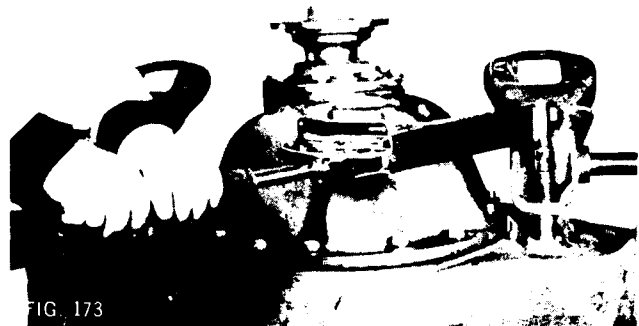

FIG. 173
18. Position air chamber bracket and spacers, which were previously installed, so that there is no binding between cam shaft and air chamber bracket bushing. Tighten bracket mounting bolts to specified torque (Fig. 173).